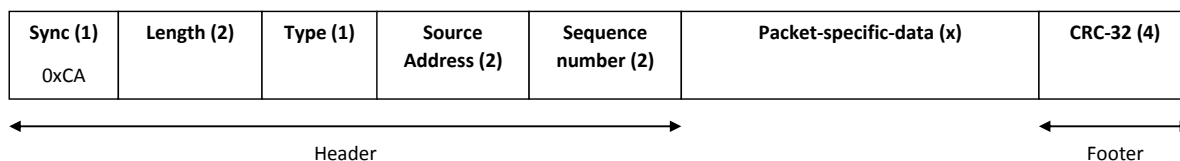

Figure 14: Page datagram generic format
- **<header>:** The generic header shown in Figure 14 with the type field set to 0
- **Message length (2):** The length of the “Message (x)” field (the only variable length portion of this packet)
- Baud rate (2): The baud rate as an integer (ie, 512, 1200, 2400).
- Page class (1): Determines the encoding of the message, one of:
- Cap code (4): Also known as pager ID, pager address, pager number, etc. The destination cap code for this message. For POCASG the valid cap codes are 1 to $(2^{21})-1$
- Function override (1): When set to 0, does not override the “function” bits in the address codeword and instead uses the page class to determine the function bits. When set to 1 through 4 will encode the page as per the page class format, however it will override the function bits to this value.
- <footer>: The generic footer shown in Figure 14
- <header>: The generic header shown in Figure 14 with the type field set to 1.
- Response code (4): A 32-bit response code:
- <footer>: The generic footer shown in Figure 14.
- <header>: The generic header shown in Figure 14 with the type field set to 2.